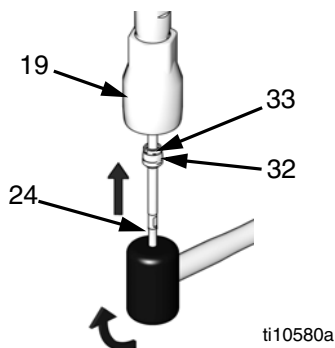

FIG. 24
- Lubricate priming piston rod (24), then slide assembled intake valve onto rod. Ensure packing nut (33) goes on rod first. Push valve assembly up rod, stopping before it reaches intake valve housing (19). See FIG. 24.
- Hold valve body (32) steady with a wrench while using an adjustable wrench to tighten packing nut (33); see the following table for correct torque. Use a rubber mallet on priming piston rod (24), to drive valve assembly up to stop.